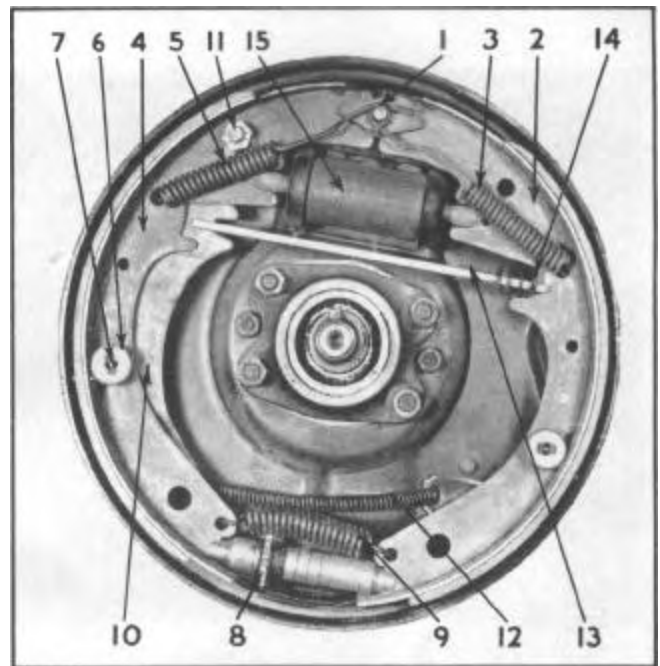

FIGURE 8
The disassembly and reassembly procedure of the rear brake is the same as for the front brakes, except for the removal of brake shoe lever to shoe pin (11), Figure 8, brake shoe cable lever (10), and cable lever strut (13).